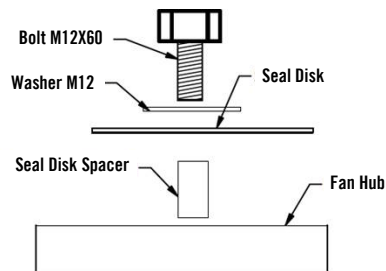

Figure 34. Replace Seal Disk
9. For S3E-1424-X models, replace the fan seal disk and tighten bolts, then torque to 66 lb-ft (90 Nm) (**Figure 34**).